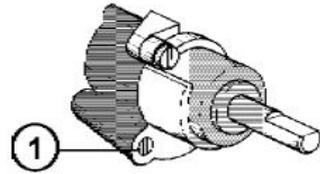

Fig. 7
For adjustment of the minimum, it is necessary to intervene on the screw (**Fig. 7 ref.1**): by unscrewing, the flame increases and by re-tightening the flame decreases.